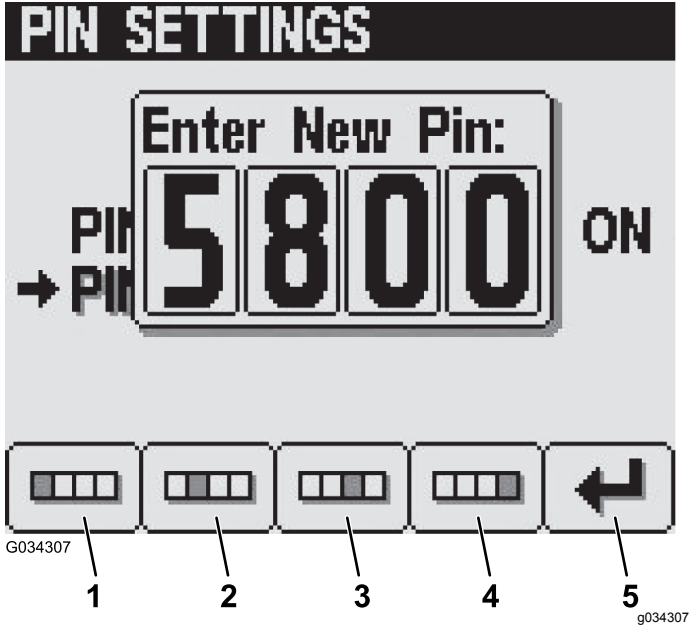

Figure 34
5. In the Enter New PIN screen, enter your new PIN using buttons 1 to 4, and press button 5 to enter the new PIN into the InfoCenter (Figure 34).